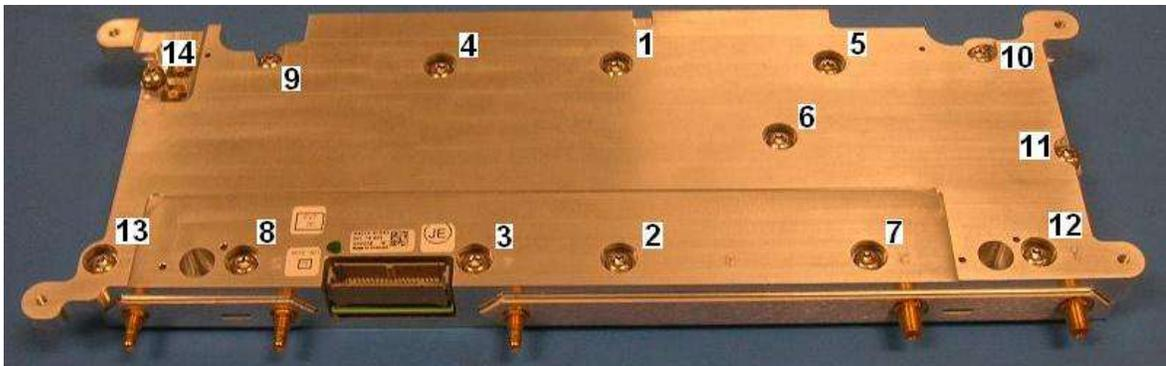

Figure 9
- (h) Place the metal gaskets on the PCB, ensuring the position and orientation of each one is correct. Carefully fit the top half of the RF shield, and tighten the 14 screws to 21 in-lbs (2.37 Nm) using the sequence shown in Figure 9.